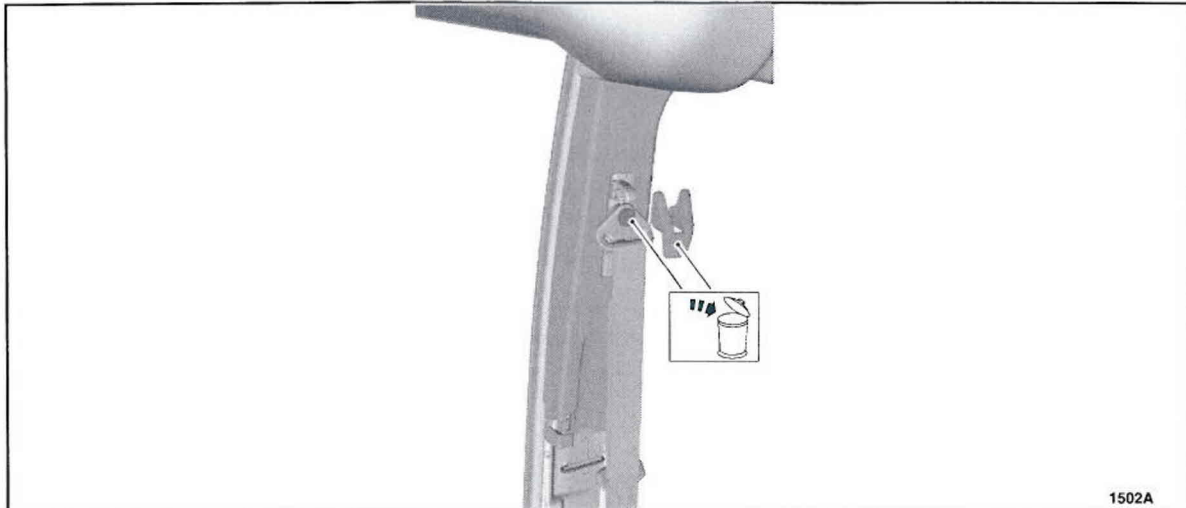

FIGURE 2
1. Remove and discard the D-ring cover and the D-ring fastener. Position the safety belt aside. See Figure 2.
4. Reposition the safety belt and install the *new* D-ring fastener. See Figure 2.